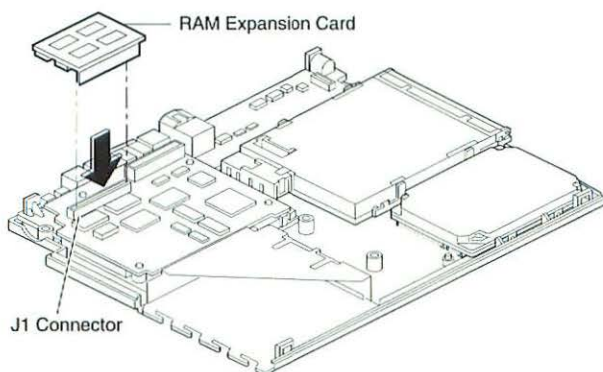

Figure 3 RAM Expansion Card
4. Connect the RAM expansion card to connector J1 on the daughterboard. (Figure 3).